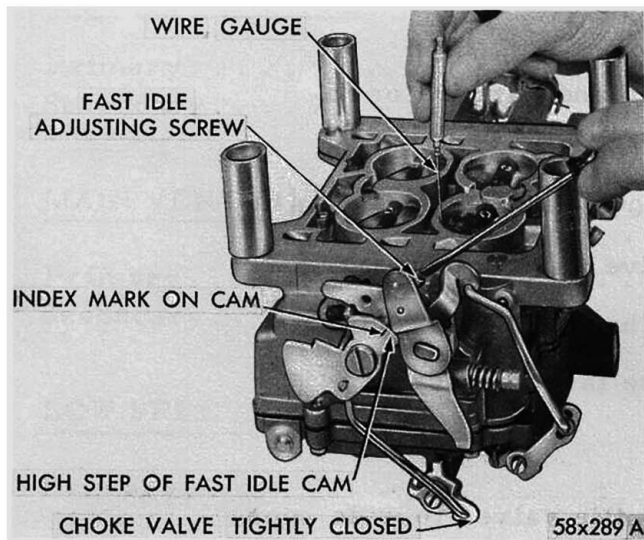

Fig. 1-Measuring and Adjusting the Fast Idle
(1) With the choke valve held tightly closed and carburetor inverted, tighten the fast idle adjusting screw (on the high step of the fast idle cam) until wire gauge Tool T-109-200 (.010 inch) can be inserted between the primary throttle valve and the bore (side opposite idle port), as shown in Figure 1. The index mark on the fast idle cam should be in direct line with the fast idle screw shank.